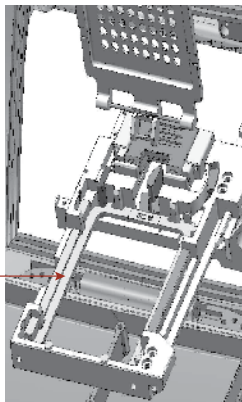

Figure 73. Removing the Microplate Sample Tray Cover.
3. With the Microplate Sample Tray Cover disengaged, gently pull up to release it from the Tray assembly (Figure 73).